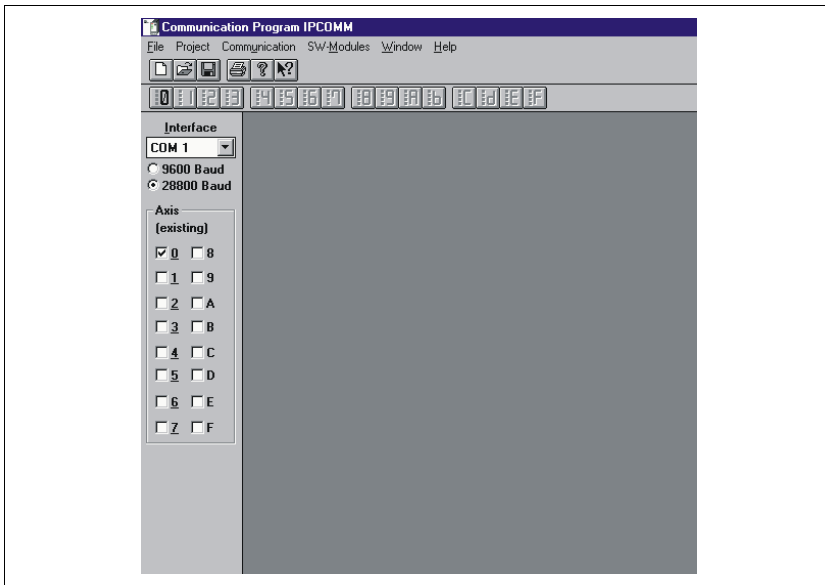

Fig. 18: Window for selection of interface and axis
- You can open the axis window either with (Fig. 18) **Communication** via the main menu or directly